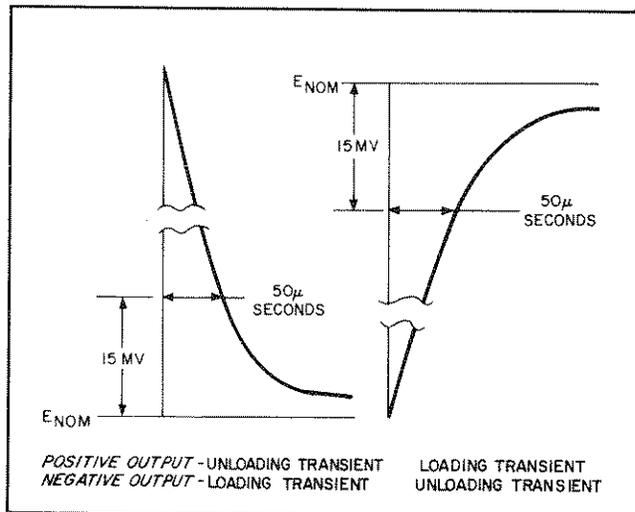

Figure 5-6. Load Transient Recovery Time Waveforms
- i. Starting from the major graticule division representing time zero, count to the right $50\mu s$ and vertically $15mV$. Recovery should be within these tolerances, as illustrated in Figure 5-6.